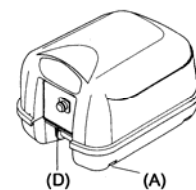

Fig 1-C
- Undo the screws (B) and remove the holder cover (Ref: Fig. 1-D).